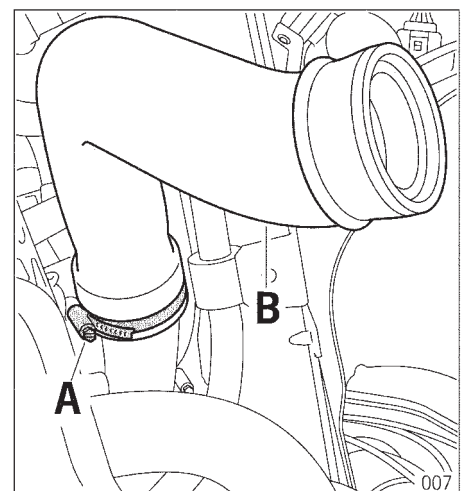

Figure 7
- 10.5** Loosen hose clamp, Figure 7. item A and remove left pressure hose, item B.